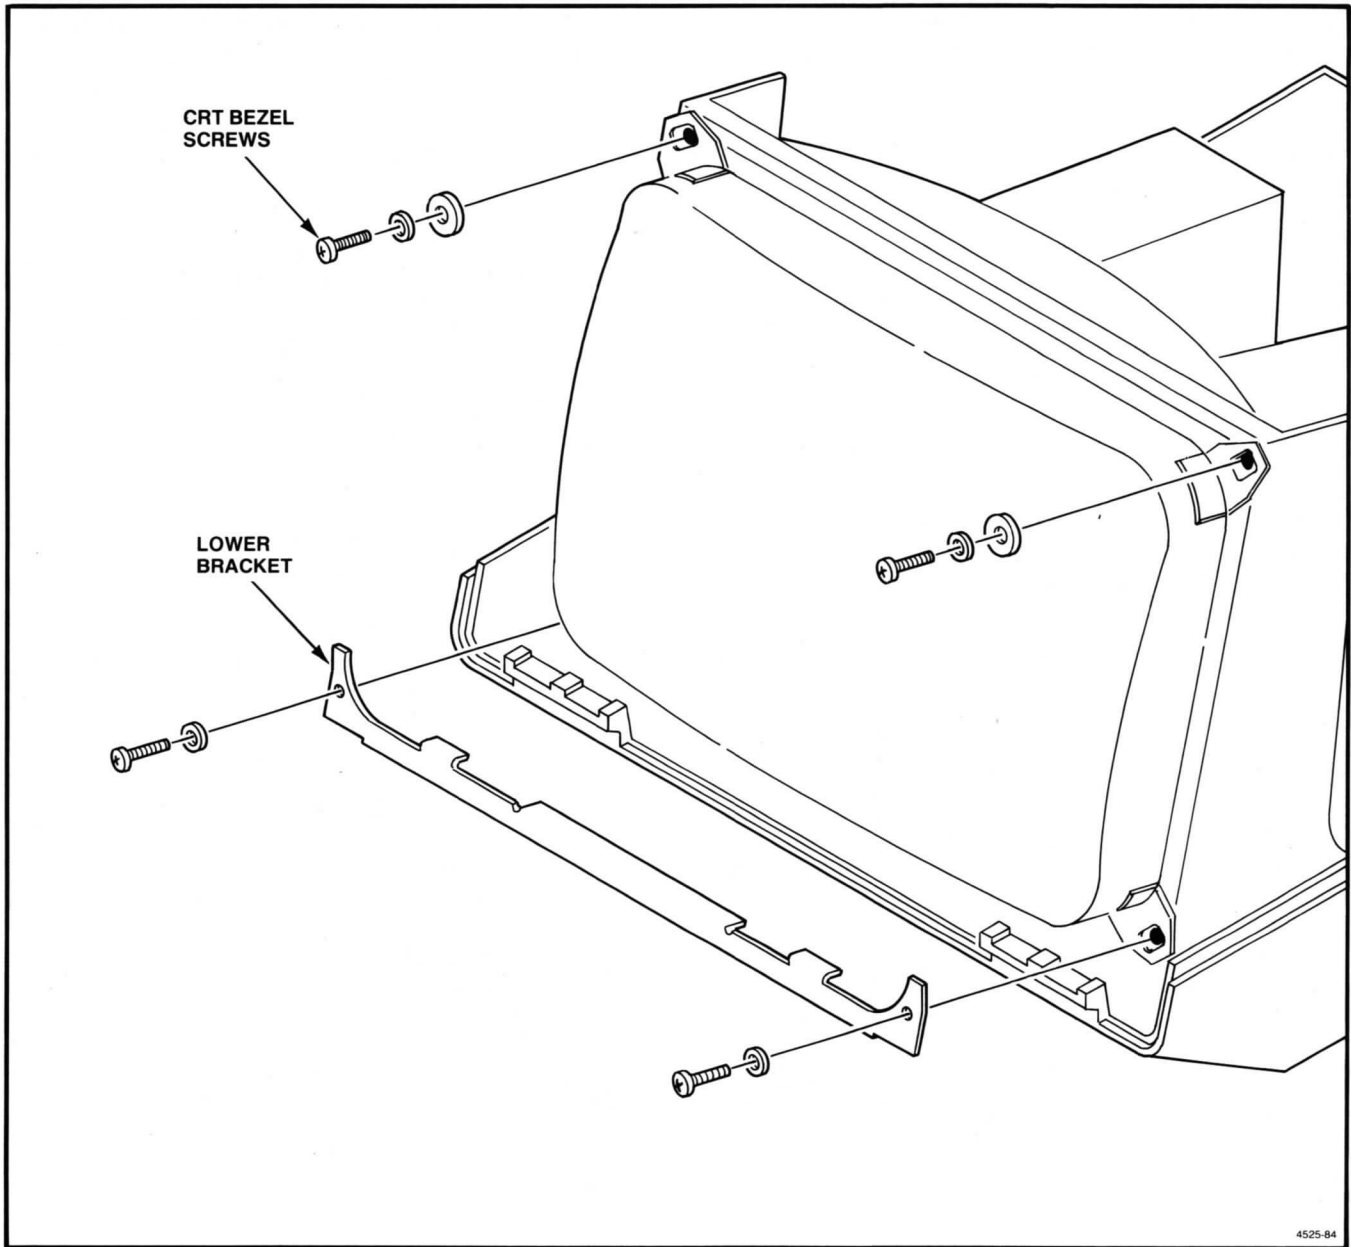

Figure 6-8. CRT Forward Mounting Screws.
5. Remove the four screws that clamp the front corners of the CRT to the display chassis. Remove the lower bracket also. Place the washers and screws in labeled containers (to prevent misplacing them or confusing them with other similar, but different, screws). See Figure 6-8.